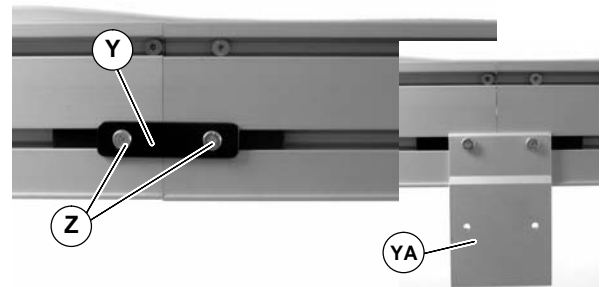

Figure 8
4. Join additional conveyor sections if necessary and install connector brackets (Y of Figure 8) or connector/mount brackets (YA) and screws (Z) on both sides as indicated. Tighten screws to 60 in-lb (7 Nm).